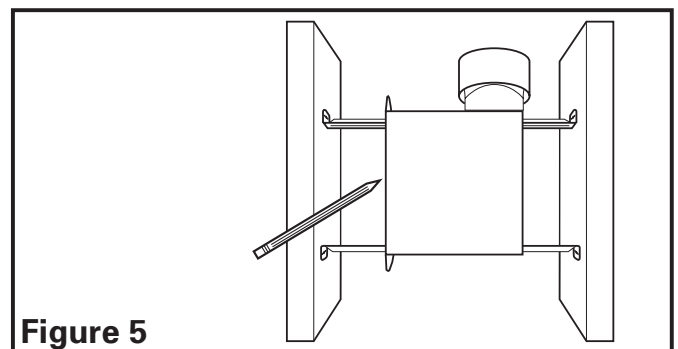
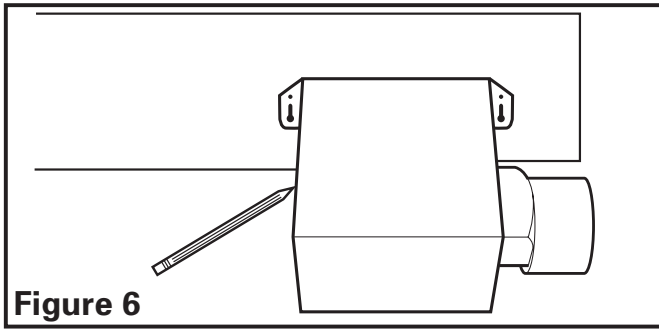

**Figure 4**
Figure 6
2. **Mounting Tab Installation:** Using the gauge on the fan's housing, line up housing so that it will be flush with the finished ceiling. Position the fan so that the tabs rest flat against the joist and secure with four nails or screws (not provided) to ensure proper installation (**Figure 4**).
- 1b. **Mounting Tab Installation:** Position housing against the joist and trace an outline of the housing onto the ceiling material (**Figure 6**). Set housing aside and cut opening, being careful not to cut or damage any electrical or other hidden utilities. Place housing next to the joist and insure that it is flush with the finished ceiling. Secure with four nails or screws (not provided) to ensure proper installation (**Figure 4**).